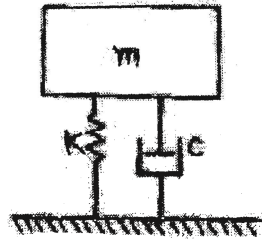

Fig.3
- Q3)** Determine the equation of motion of the mass for free vibration as shown in Fig.3 with following details; $m = 10\text{kg}$, $k = 1000\text{N/m}$, $C = 100\text{N.s/m}$, $x(0) = 1.0001\text{m}$, $\dot{x} = 0.10\text{m/s}$. [10]